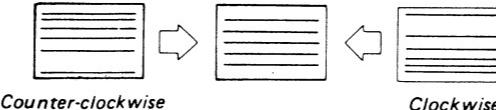

Fig. 29-2
3. Adjust V. LIN BALANCE by turning DA board RV20 as shown in Fig. 29-2.